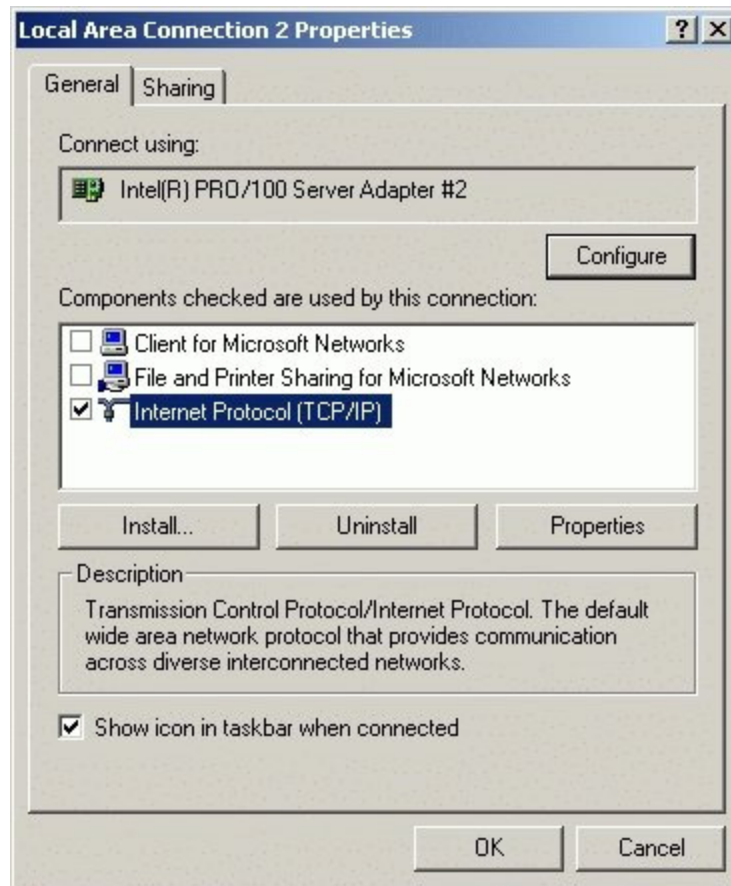

Figure 3.32. Local Area Connection 2 Properties dialog box
4. Click **Properties**. The Local Area Connection 2 Properties dialog box displays (Figure 3-32).